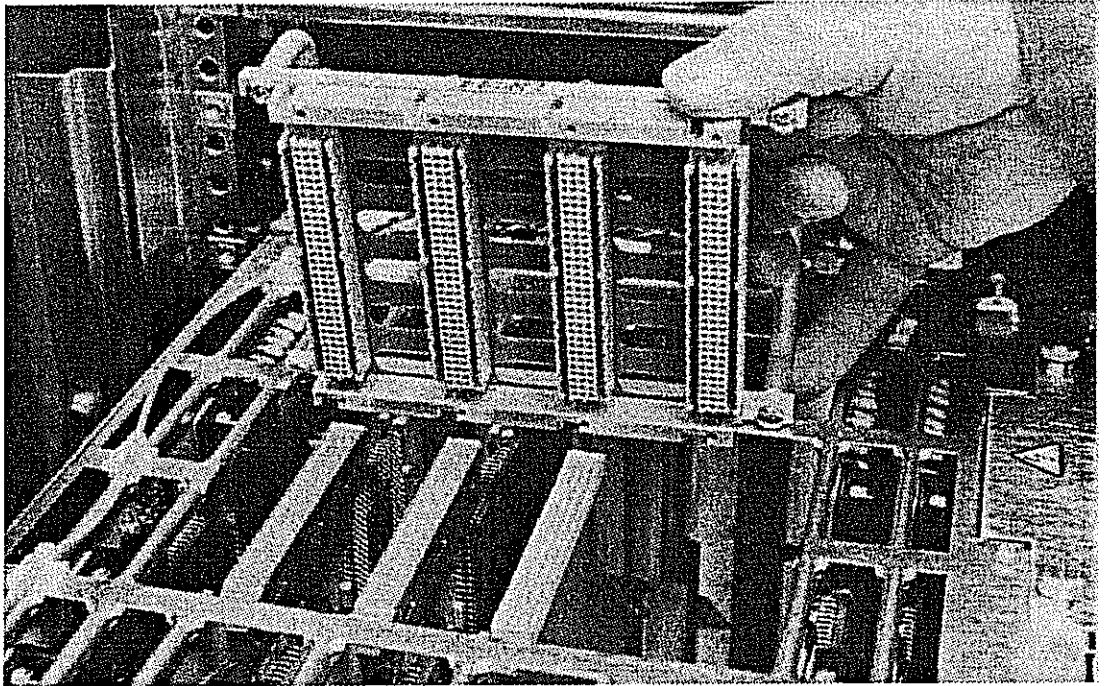

Figure 7-67. Removing the MAB
5. Remove the MAB by lifting it out, as shown in Figure 7-67.